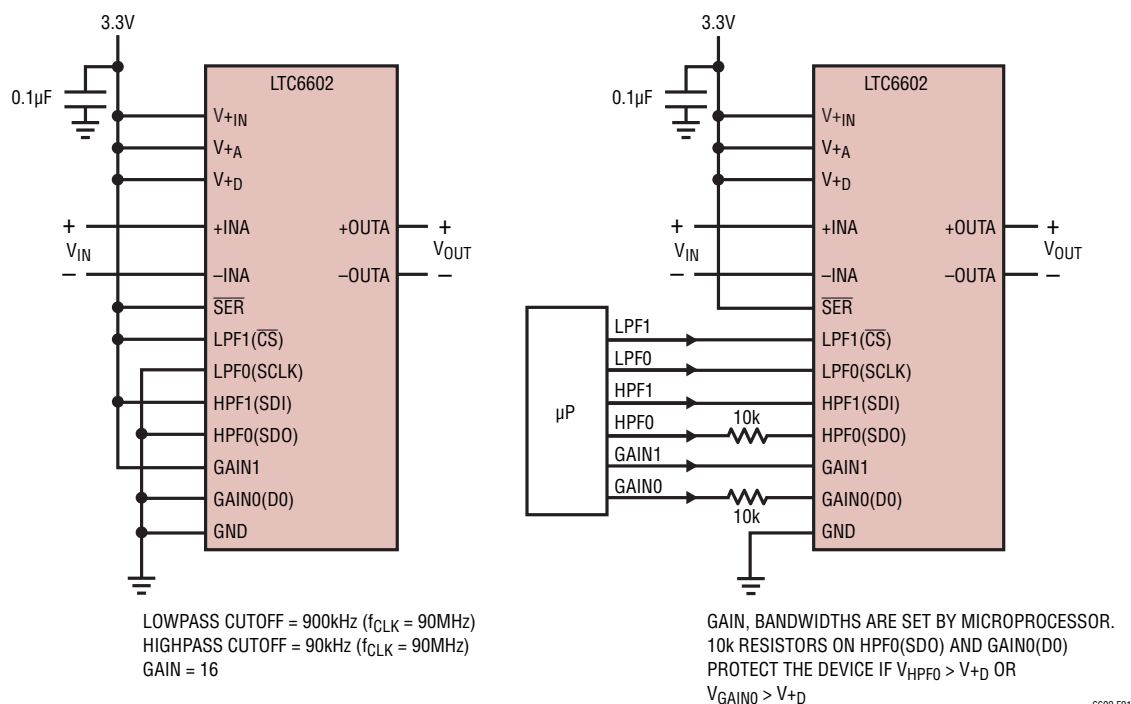
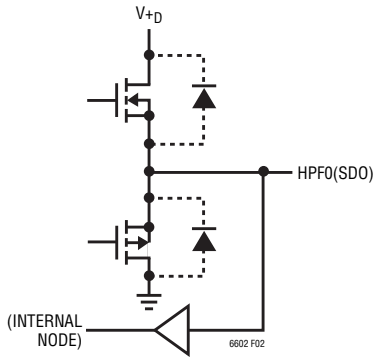

Figure 1. Filter in Pin Programmable Control Mode
Figure 2. Bidirectional Design of HPF0(SDO) and GAIN0(DO) Pins
As shown in Figure 1, connecting  $\overline{SER}$  to  $V_{+D}$  allows the filter to be directly controlled through the pin programmable control lines GAIN1, GAIN0, HPF1, HPF0, LPF1 and LPF0. The HPF0(SDO) and GAIN0(DO) pins are bidirectional (inputs in pin programmable control mode, outputs in serial mode). In pin programmable control mode, the voltages at HPF0(SDO) and GAIN0(DO) cannot exceed  $V_{+D}$ ; otherwise, large currents can be injected to  $V_{+D}$  through the internal diodes (see Figure 2). Connecting a 10k resistor at the HPF0(SDO) and GAIN0(DO) pins (see Figure 1) is recommended for current limiting, to less than 10mA.  $\overline{SER}$  has an internal pull-up to  $V_{+D}$ . None of the logic inputs have an internal pull-up or pull-down.